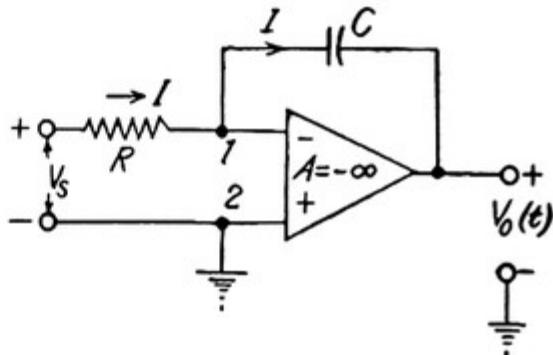

Fig. 21. Integrator.
(5) Integrator : In fig. 21, an integrator is shown. It is an inverting OP-AMP in which feedback resistor  $R_2$  has been replaced by a capacitor,